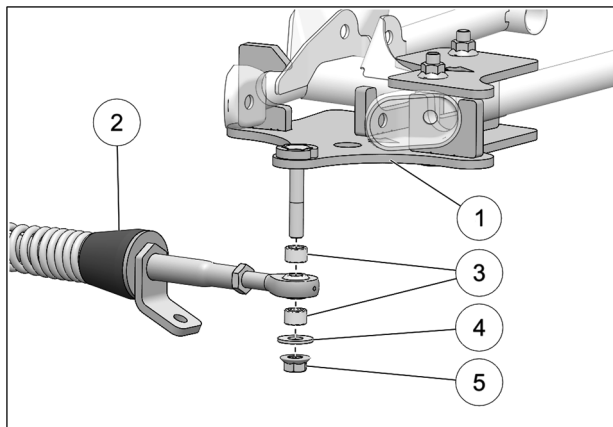

Fig. 11
10. Attach stabilizing rod (2) to anchor bracket (1), using the spacer bushings (3), flat washer (4) and nut (5). Torque to 70 N•m [52 lb•ft]. See Fig. 11